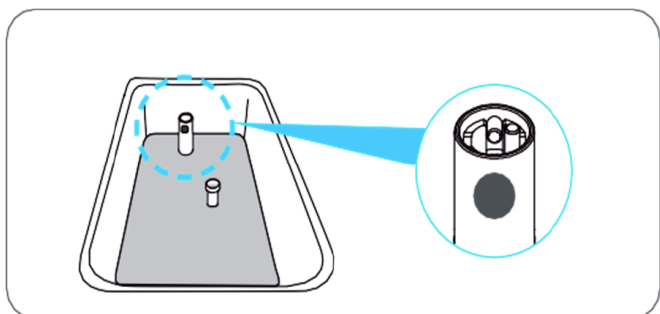

Figure 5-17
4. Wait until the display shows “100%” then open the feed tube. (Figure 5-17.) There are three holes in the feed tube. To do this, turn the feed tube until the middle hole is unplugged.